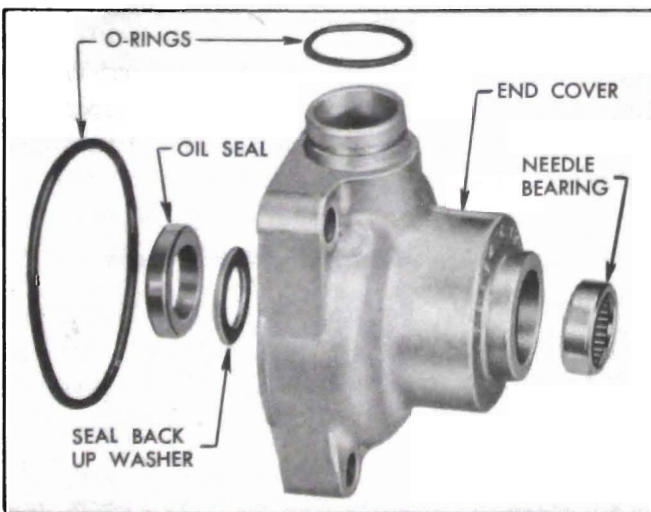

Figure 8-36—End Cover Bearing and Seals Assembly
13. Install new seal back-up washer in end cover with chamfered side first. See Figure 8-36. Press in new end cover oil seal using Seal Installer J 5188 with lips toward tool. Lubricate seal with dynaflo oil and install